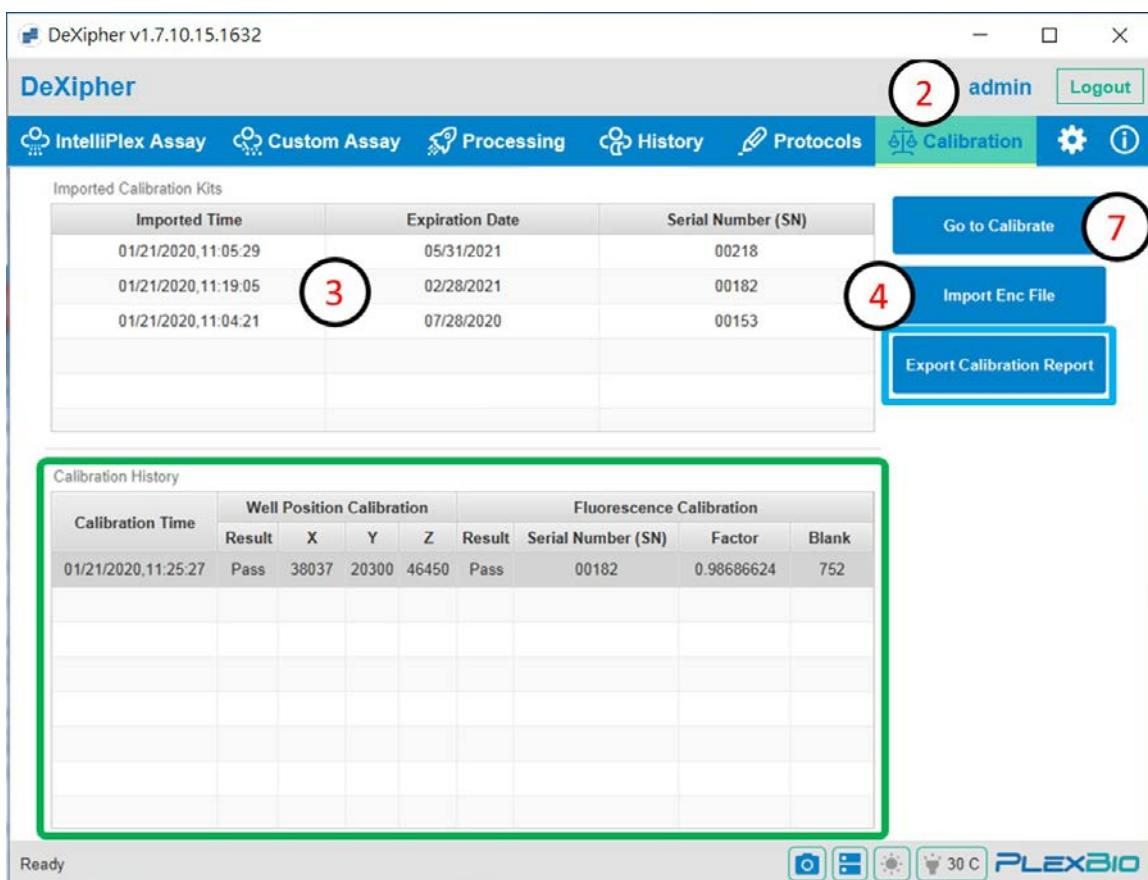

Fig. 46. Calibration tab
2. Go to the **Calibration tab** (Fig. 46).
The “Calibration History” table in the **Calibration tab** also summarizes the calibration results of each calibration event (Fig. 46, green box).
To Export a calibration report, select the calibration event and click “Export Calibration Report” in the **Calibration tab** (Fig. 46, blue box).